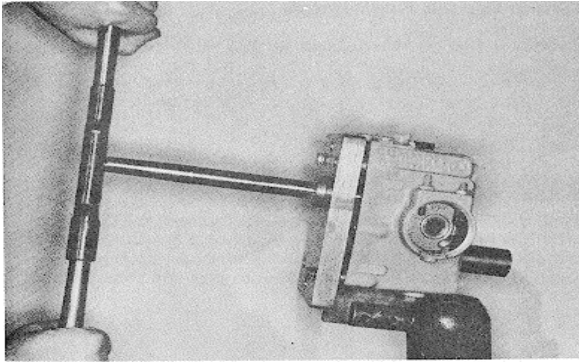

Fig. 5-17, F514. Reaming drive shaft bushing with ST-490
5. Line ream bushing to 0.7495 to 0.7505 inch [19.04 to 19.06 mm] with ST-490 Ream Fixture, and a well oiled 0.750 inch (3/4 inch [19.05 mm]) reamer, Fig. 5-17. Check bushing I.D.